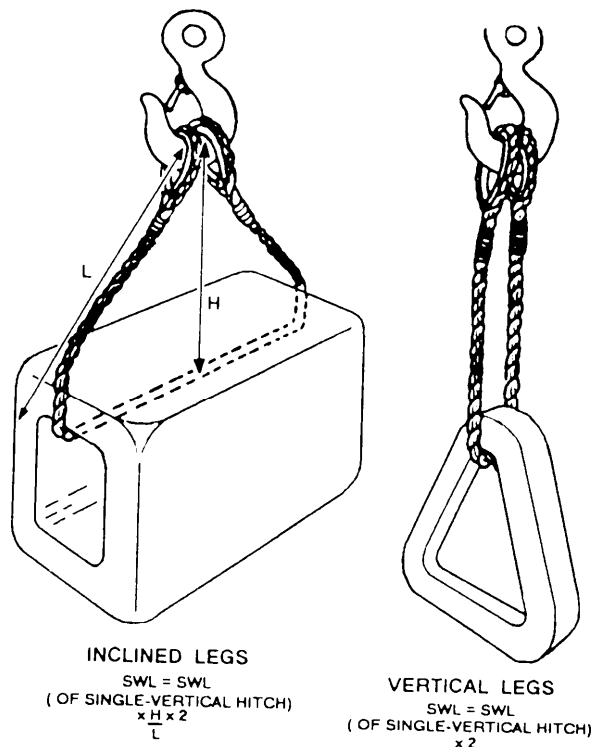

Figure 13-37.—Determination of single-basket hitch sling capacity.
**Single-basket hitch** (fig. 13-37): For vertical legs, SWL = SWL (of single-vertical hitch) x 2.